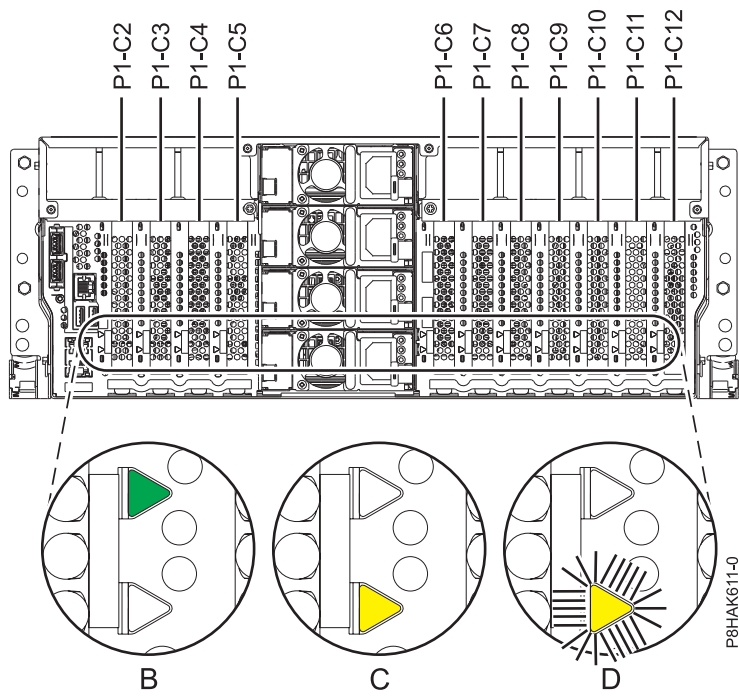
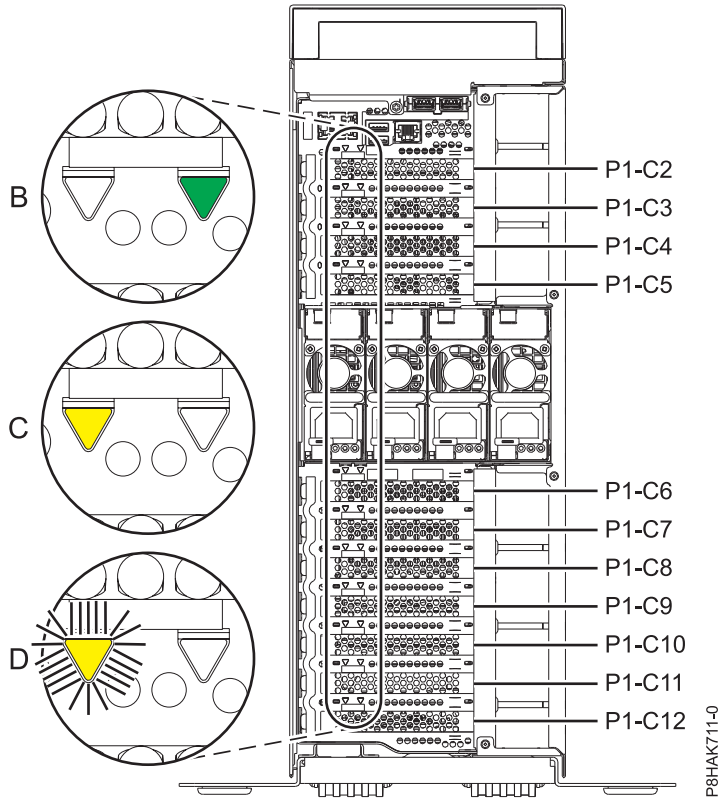

Figure 58. PCIe adapter slot locations and locations of the LEDs in a rack-mounted system
Figure 59. PCIe adapter slot locations and locations of the LEDs in a stand-alone 8286-41A system
If you are servicing a failed PCIe adapter, look for the flashing amber LED for the failed PCIe adapter that you set to flash in the step to identify the failed part. See Figure 58 on page 63 and Figure 59 on page 63 that show the state of the LEDs. Note that the amber LED for the failed PCIe adapter is **Flashing**, as shown in **(D)** in Figure 58 on page 63 and Figure 59 on page 63.
**Attention:** If the PCIe adapter is operating correctly then the Activity LED is **ON** (green) and the Error amber LED is **OFF**, as shown in **(B)** in Figure 58 on page 63 and Figure 59 on page 63. Do not attempt to remove the working PCIe adapter.